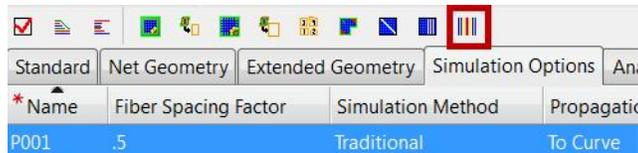

Figure 6–34
1. In the ply list, select **P001**. In the Ply toolbar, click  (Fiber Path Curve Creation) as shown in Figure 6–34.